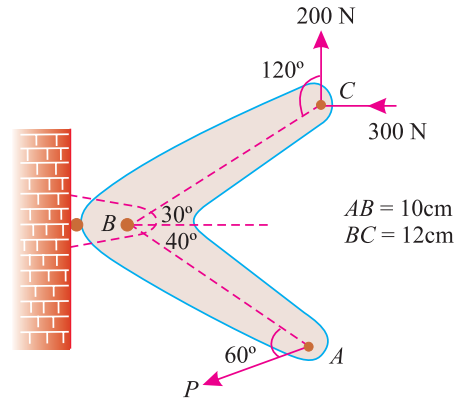

Fig. 3.19.
**Example 3.12.** The lever ABC of a component of a machine is hinged at B, and is subjected to a system of coplaner forces as shown in Fig. 3.19